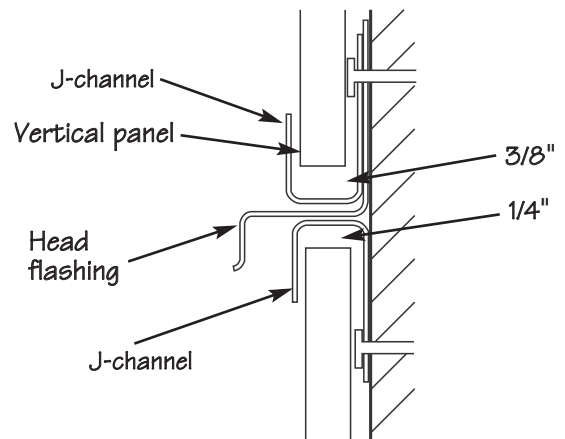

Figure 56.
- If it will take more than one course to span the height of the house, terminate the first course into an inverted J-channel (Fig. 56), allowing 1/4" for expansion. Install head flashing on top of the J-channel and install a second J-channel facing upward. Begin the second course leaving a 3/8" gap from the bottom of the panel to the J-channel.
- Begin by fastening J-channel along the inside edge of the roof. Install an upward facing J-channel as a vertical base on top of the previously installed J-channel at the base of the gable, as shown in Figure 56 on page 30.